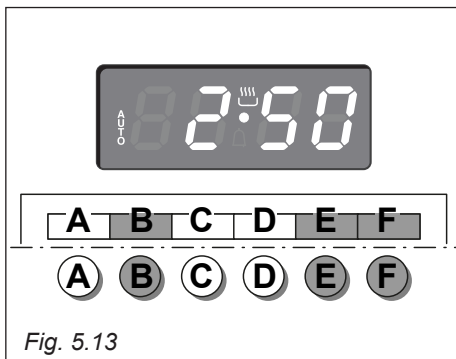

Fig. 5.13
1. Set the length of the cooking time by pushing the “B” button and the “F” button to advance, or “E” to go backwards if you have passed the desired time (fig. 5.13).